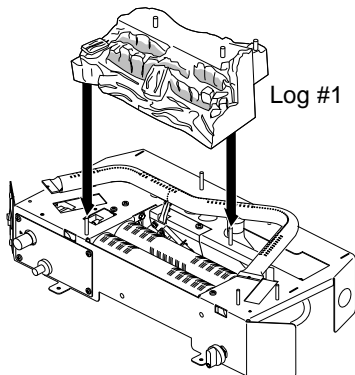

Figure 20 - Installing Log #1 [Ember Bed] (Model CSG3924NR Shown)
1. Place log #1 (ember bed) onto base. Position log over alignment screws to left of front burner and behind middle burner. Ember bed will sit on top of front and middle burners (see Figure 20).